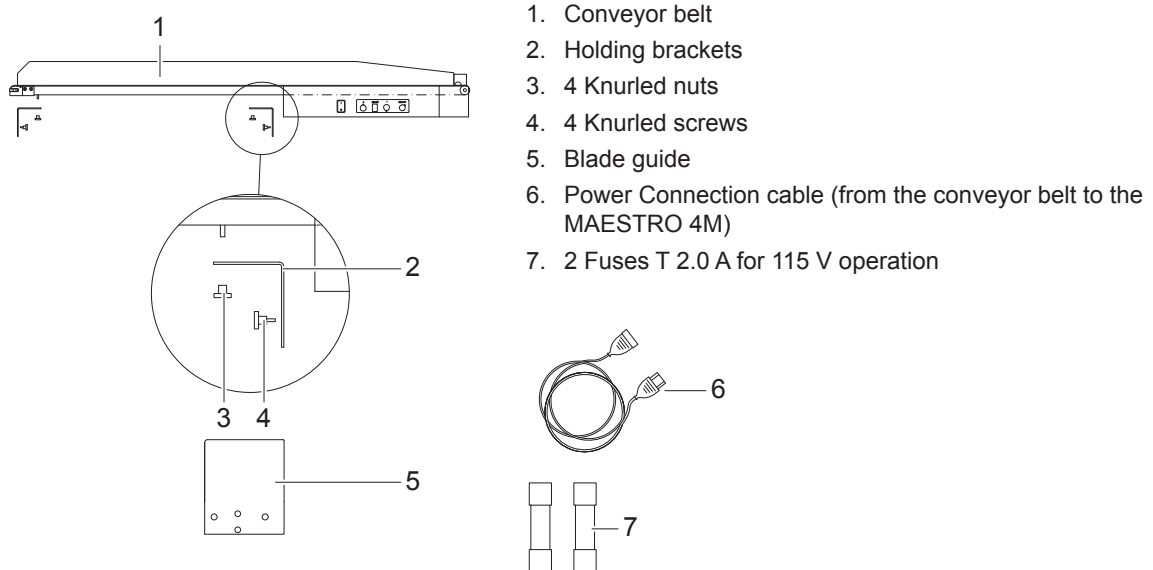
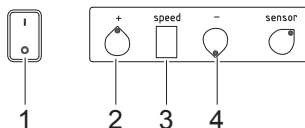

Fig. 2 Overview
Fig. 5 Conveyor speed
- ▶ To operate the conveyor with a voltage of 115 V the setting on the power module has to be changed. The fuses have to be replaced by the 2A fuses (Fig. 2 - 7) included in the contents of delivery.
- ▶ Connect the plug (2) of the MAESTRO 4M to the power module (5) of the conveyor with the connecting cable (Fig. 2 - 6) included in the contents of delivery.
- ▶ Put the foot switch cable of the MAESTRO 4M into the input socket (3) of the conveyor belt (rear side of the machine). Then connect the switching cable (4) which is also located on the rear side of the conveyor to the input socket (1) of the MAESTRO 4M.
- ▶ Switch on the MAESTRO 4M and start the conveyor belt by operating the yellow switch (Fig. 5 - 1).